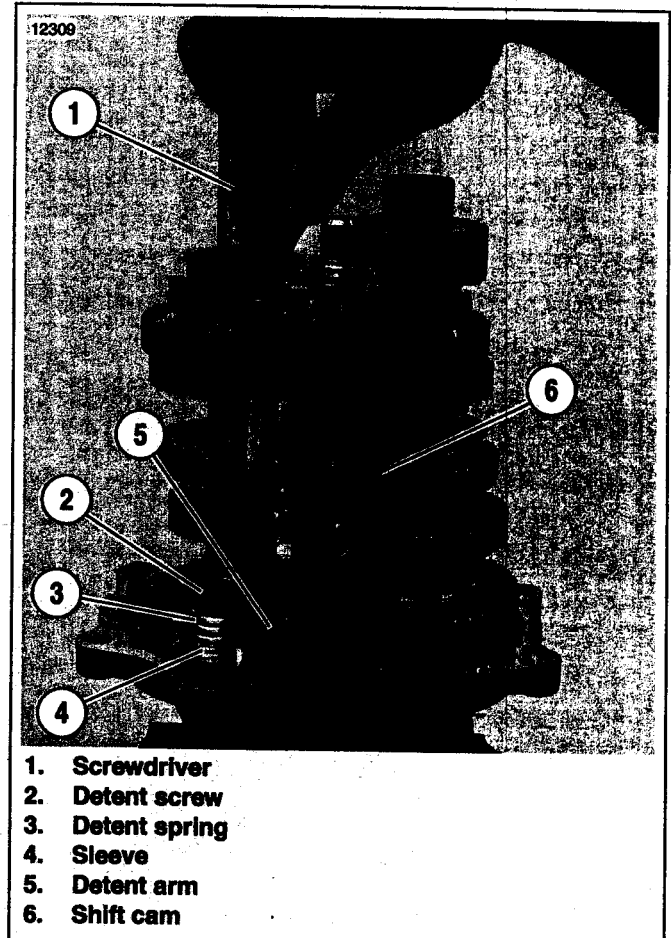

Figure 10. Shift Cam and Detent Assembly
22. See Figure 10. Insert screwdriver (1) and gently pry back detent arm (5) to remove detent spring (3) tension from shift cam (6). Remove shift cam.
23. Remove detent screw (2), detent spring, sleeve (4) and detent arm. Discard detent screw.
3. See Figure 10. Using screwdriver (1), pull detent arm (5) back and install new shift cam (6) (Part No. 33413-06 from recall parts kit).